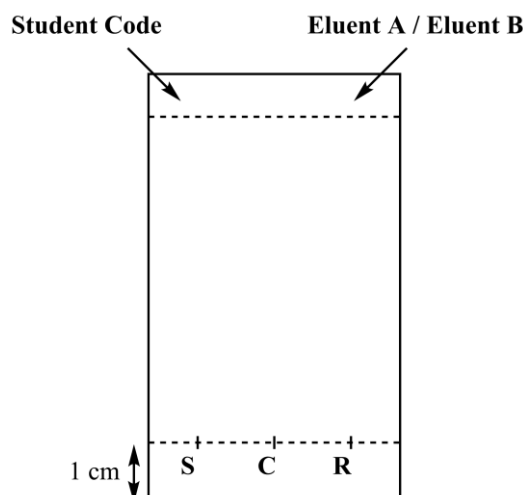

Figure 3. TLC plate preparation
3. Prepare your TLC plate. Use a pencil to draw carefully the start line (1 cm above the bottom of the plate) and mark the positions in order to spot the 3 samples. Label them S (Starting material), C (Crude product) and R (Recrystallized product), as described in Figure 3. On the top left of the plate, write your **Student Code**. On the top right of the plate, write the eluent you use (first **Eluent A**, then **Eluent B**). Spot the three samples on the plate, using capillary spotters.